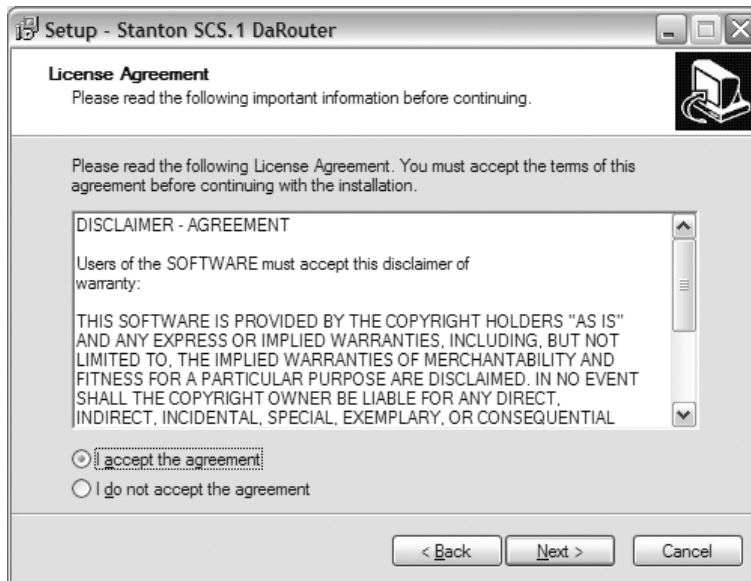

Figure 4.4
4. Read the License Agreement, select the "I accept the agreement" option, and then click **Next**. (Figure 4.4)